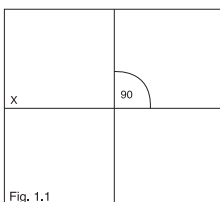

Fig. 1.1
1.1 Snap chalk line (Y) through center of room as shown in Fig. 1.1 above. Next, determine perpendicular line (X). Important: Line X must be exactly 90° to line Y to form perfectly square corner.
E) If correct, snap chalk line through intersection of arcs and center point of line Y. Chalk line represents line X and should form 90° angle with line Y as shown in Fig. 1.1.